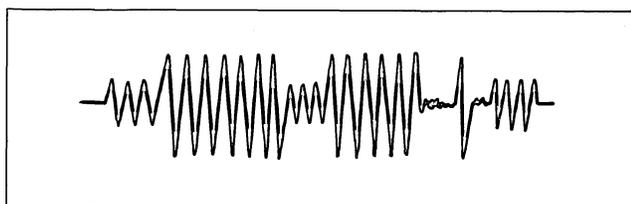

Figure 5-2. Read Amplifier TP6
4. Read Start the tape and check TP6 of the Read Amplifier board for data coming off tape. The signal should be approximately 19 v pk-pk and on the verge of dropping out (see Figure 5-2).